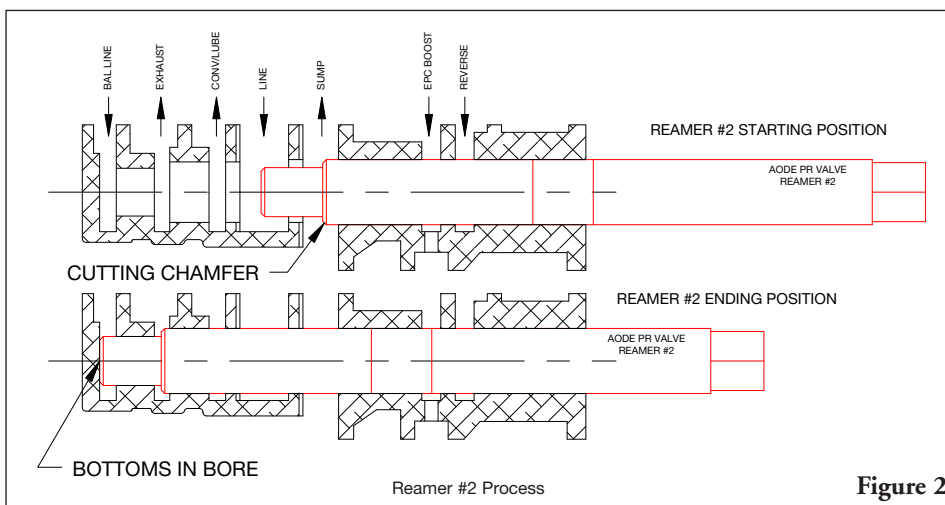

Figure 2
8. Repeat steps 3-7, using Reamer #2. This reamer will begin cutting in the middle of the sump port, and will bottom in the bore when reaming is completed (see Figure 2).